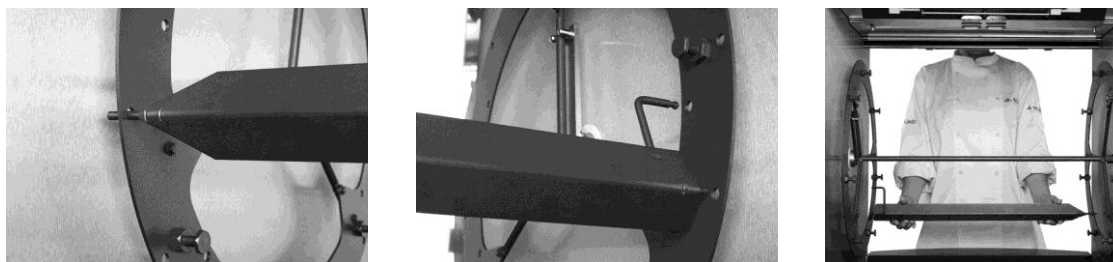

Figure 13
- Place the skewer into the small outside hole on the rotor end plate on your left (as you face the oven). The back of the V-shape spit should be pointing towards you (see Figure 13).